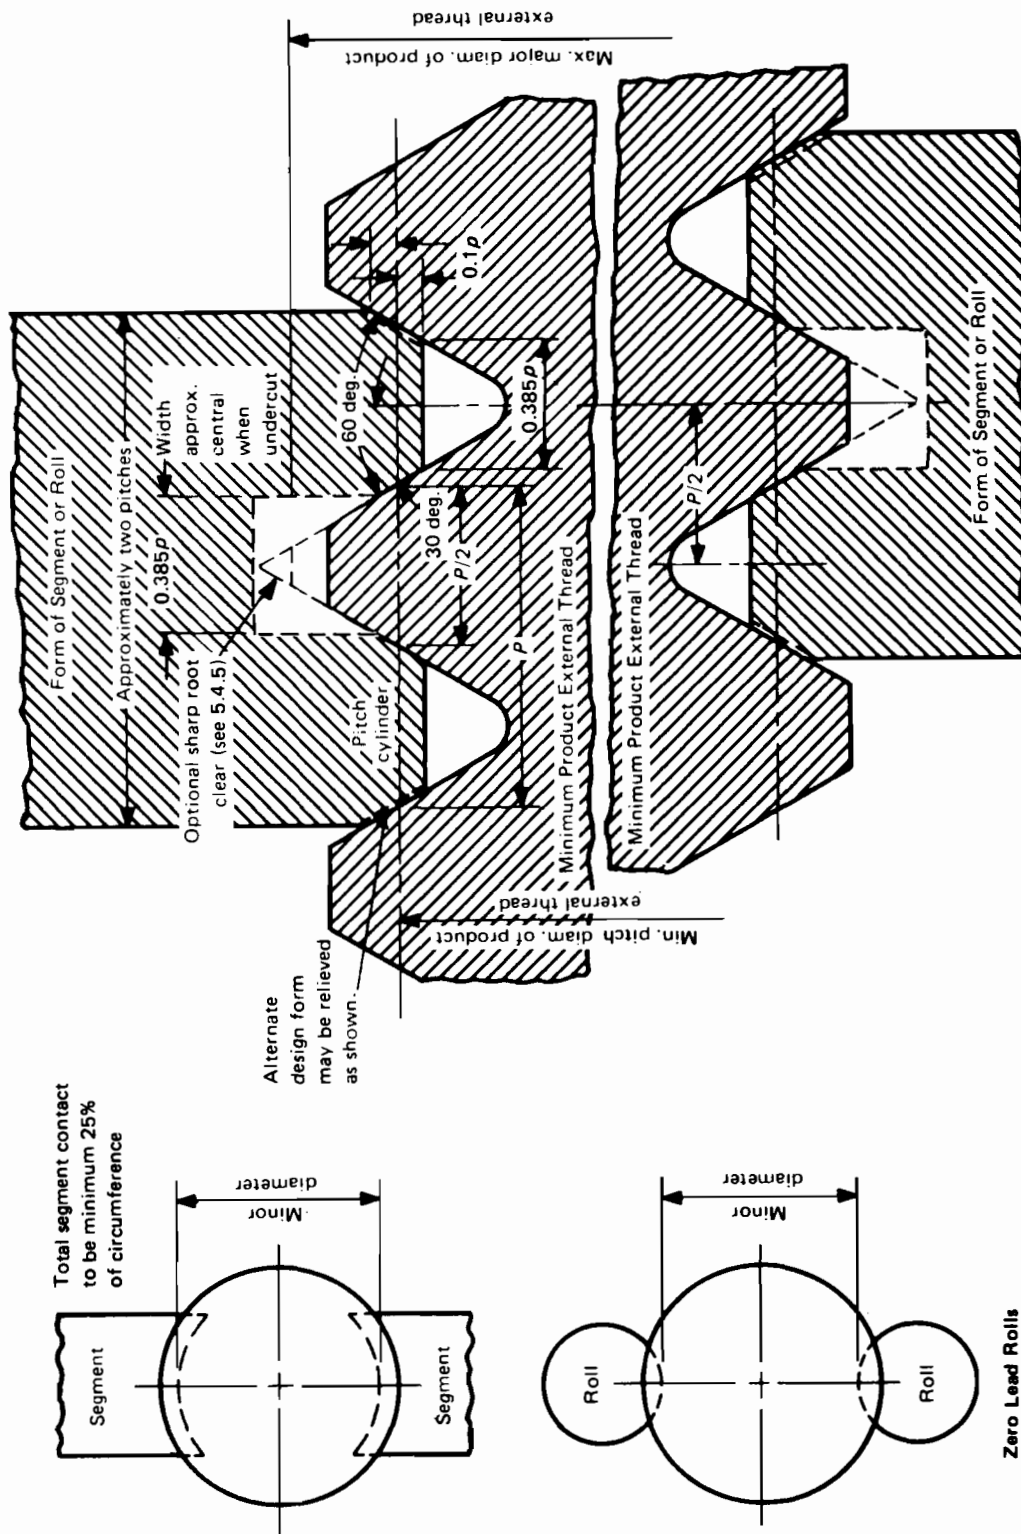

FIG. 21 THREAD SNAP GAGES — LO FUNCTIONAL DIAMETER LIMIT
5.4.3 Thread Form. The specifications for thread form are summarized in Table 4 and Fig. 21.